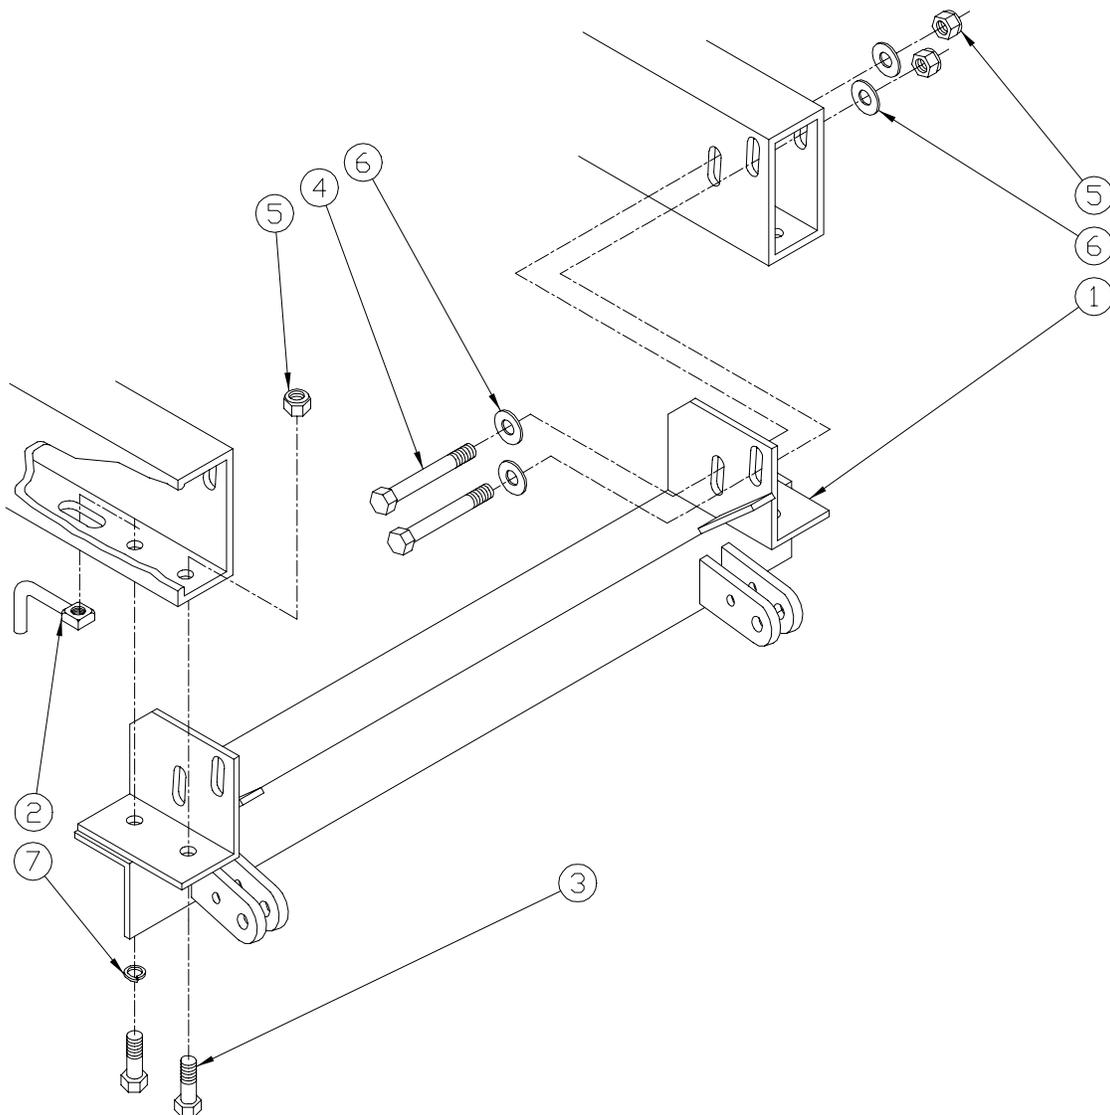

Figure 1
4. Position baseplate between frame beams. (See Fig. 1) Bolt the baseplate to the frame using the four 1/2" x 4" bolts. If the baseplate does not fit snugly between the beams, you will need to put washers between the baseplate and the frame beam on one or both sides. Two 1/2" flat washers have been provided for this purpose. If more washers are needed you can purchase them at any hardware store. These bolts will be removed later so tighten them only enough to hold the base plate in position.
6. Using the four 1/2" x 1 3/4" Grade 5 bolts provided, bolt the baseplate to the frame beams. Be sure to use the correct hardware. (See Fig.1)